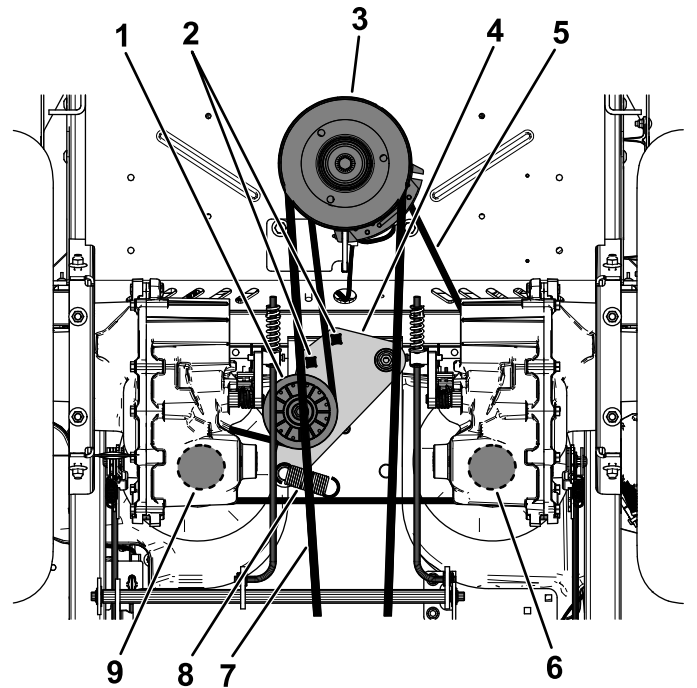

Figure 79
5. Use a 1/2-inch ratchet or breaker bar in one of the square holes in the idler arm to remove tension on the idler spring (Figure 79).
6. Remove the existing belt from the idler pulley, 2 hydraulic-pump-drive pulleys, and engine pulley (Figure 79).
7. Install the new belt around the idler pulley, engine pulley, and 2 hydraulic-pump pulleys (Figure 79).